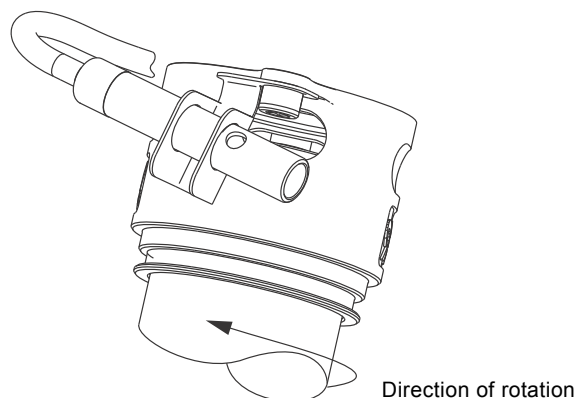

Fig. 19 Fitting the water-in-oil sensor
4. Fit the bracket (522) on the water-in-oil sensor (521). The bracket must be in front of the holes in the sensor. See fig. 19.
5. Fit one screw (186) through the bracket and one of the fixing holes of the shaft seal. To ensure that oil is led into the sensor, fit the bracket (522) so that the water-in-oil sensor (521) is positioned outside one of the holes in the shaft seal and pointing into the motor's direction of rotation. See fig. 19.